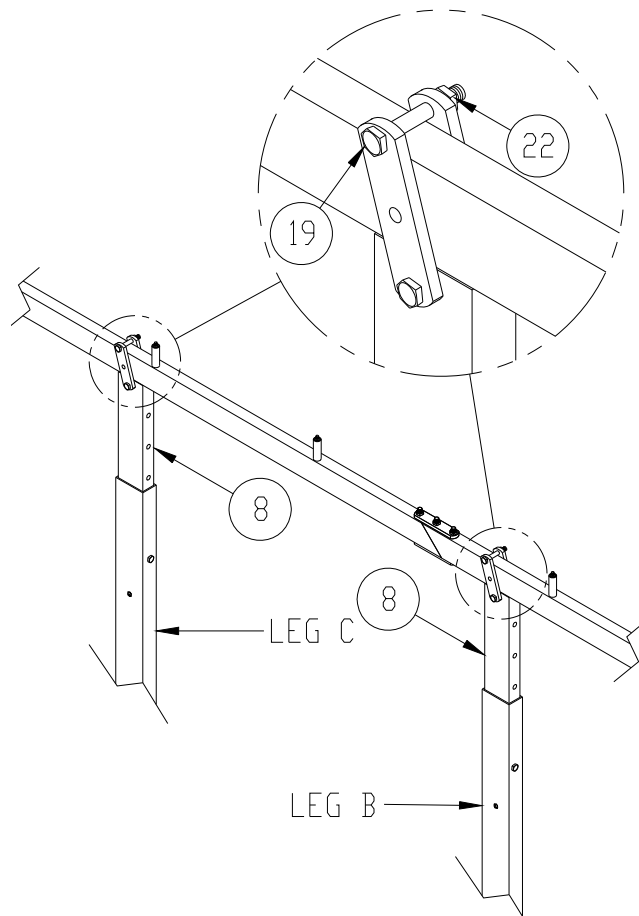

Figure 2-3.
3. Refer to **Figure 2-3**. Mount the assembled stringers to top of canopy extension legs on each side of lift. Canopy rib bushings are offset to the outside of canopy frame. Position the stringers such that the canopy protects the entire length of the boat and fasten in place with hardware shown.